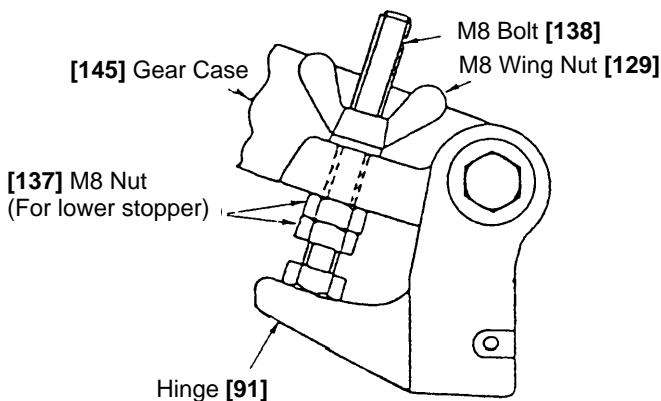

**Fig. 4**
After disassembly/reassembly or replacement of the Base Assembly [76], Turntable [71], Fence (A) [97], Fence (B) [63], Holder (A) [46], or the Hinge [91], or after disassembly/reassembly or adjustment of the Bushing [9], it is necessary to perform necessary adjustments to ensure that the fences are positioned at exact right angles to the saw blade (or, for adjustment purposes only, a dummy disc). As illustrated in Fig. 4, place a square so that it is flush against the side